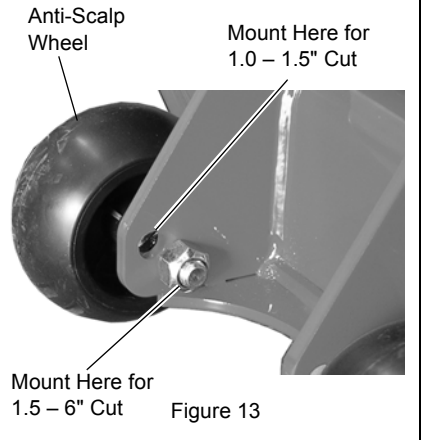

Figure 13
4. To adjust the anti-scalp rollers, remove the 1/2-13 x 5" bolts and reinstall the bolts in the appropriate hole for the desired height of cut (see figure 13).